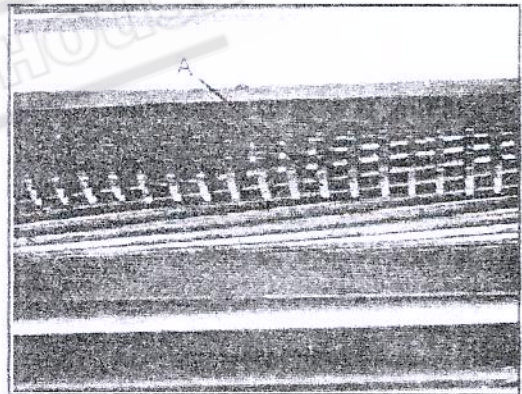

Fig. 9
Anti-kickback fingers (A) Fig. 9. Are provided on your planer to prevent kickback. These fingers operate by gravity and it is necessary to inspect them occasionally to make sure they are free of gum and pitch so that they move independently and operate correctly.
Your machine is equipped with a spiral, serrated in feed roll (B) and a out-feed roll (C) Fig. 9.